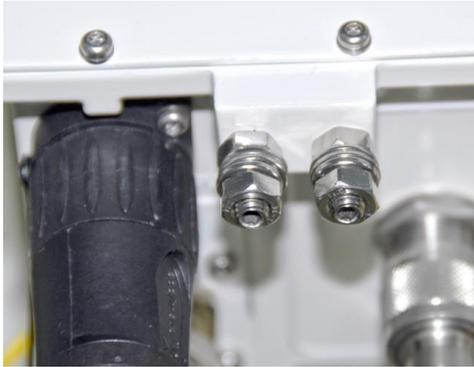

figure 4-17 Grounding bolts
1. Connect an earth-bonding cable to the grounding bolt connection provided on the outside of the unit (near the Mains connector) as shown in figure 4-17. Do not use the grounding connection to connect external devices.